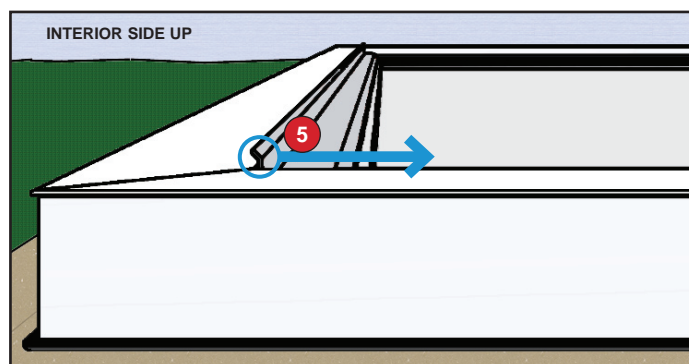

Figure 6
4. Using your fingers, grasp the exposed retainer lip (Figure 6).